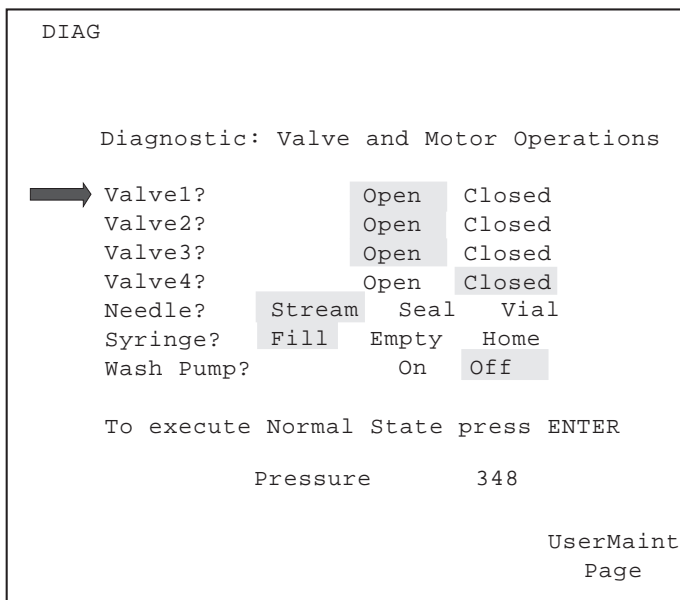

Figure 6-1 Positioning the Syringe for Manual Purge
2. Set the valves and syringe positions as shown in Figure 6-1.